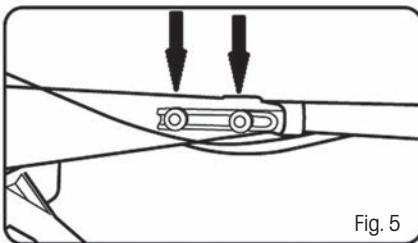

Fig. 5
2. Attach both handles on each side using two bolts - Fig. 5. A washer must be placed underneath the head of the screw.